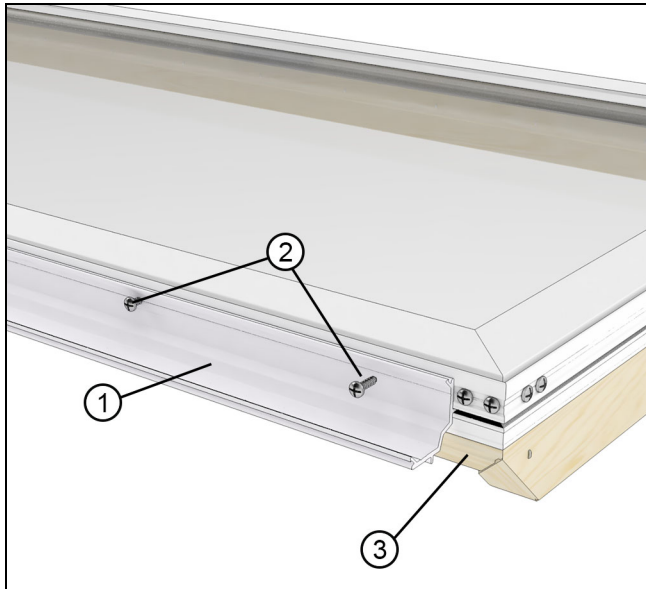

Figure 31
1. Center the bracket on the mitered frame that does not have the factory applied gasket. Use the supplied fasteners to attach the bracket to the frame (fastener locations are pre-marked on the bracket). See Figure 31.